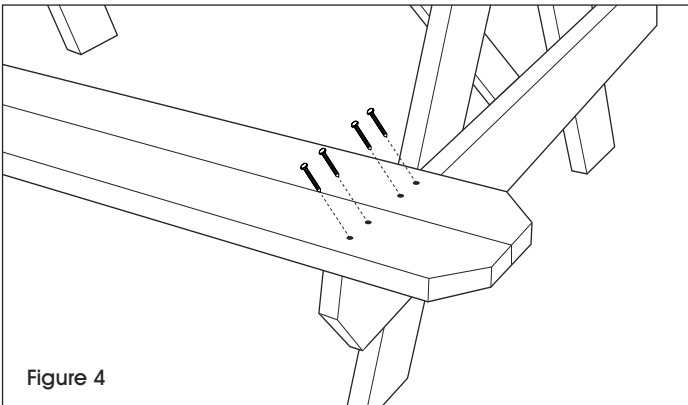

Figure 4
9. Place the outside edge of the seat bench flush with the ends of the seat braces and align the ends of the bench with the edge of the table top. Use a  $1/8$ " drill bit to pre-drill holes and avoid splitting. Attach the seat bench to the braces using eight  $2\frac{1}{2}$ " wood screws per bench seat. Repeat for opposite seat bench. (See Figure 4)